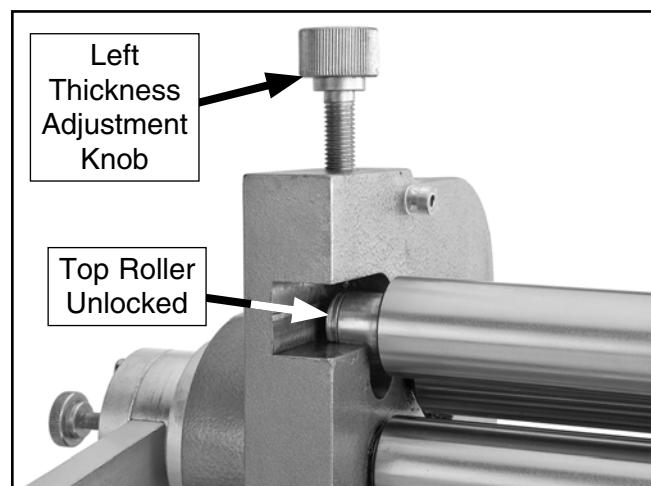

Figure 25. Thickness adjustment knob rotated to unlock top roller.
1. Rotate left thickness adjustment knob counterclockwise until top roller can be released, as shown in **Figure 25**.